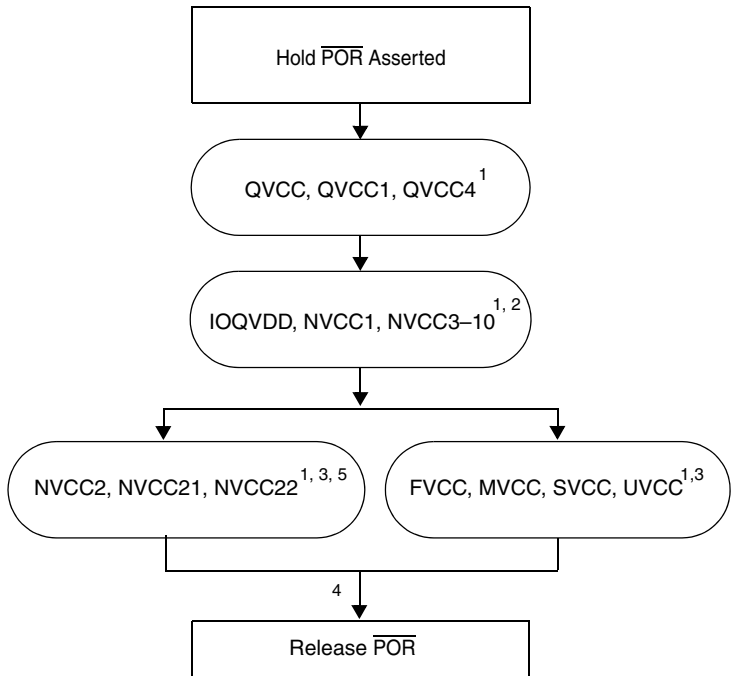
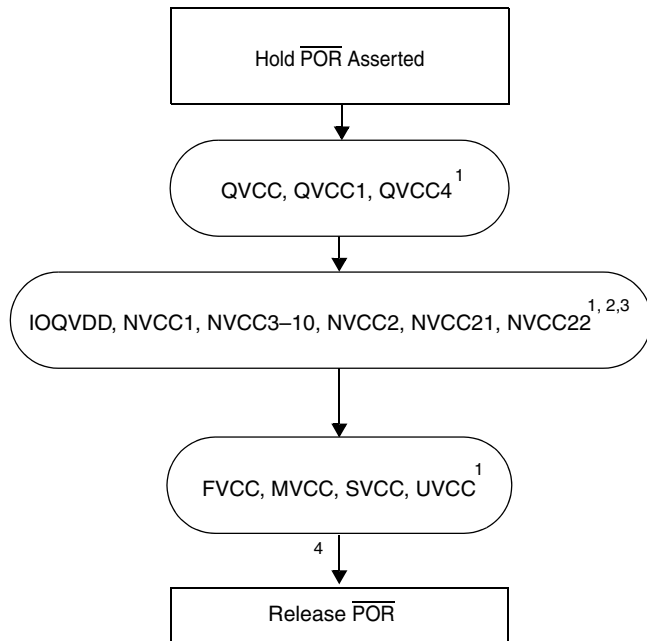

Figure 3. Option 1 Power-Up Sequence (Silicon Revision 2.0)
Figure 4. Option 2 Power-Up Sequence (Silicon Revision 2.0)
The Power On Reset ( $\overline{\text{POR}}$ ) pin must be kept asserted (low) throughout the power up sequence. Power up logic must guarantee that all power sources reach their target values prior to the release (de-assertion) of  $\overline{\text{POR}}$ . Figure 2 shows the power-up sequence for silicon Revisions 1.2 and previous. Figure 3 and Figure 4 show the power-up sequence for silicon Revision 2.0.
- 3 Raising NVCC2, NVCC21, and NVCC22 at the same time as IOQVDD does not produce the slight increase in current drain on IOQVDD (as described in Figure 3, Note 5).